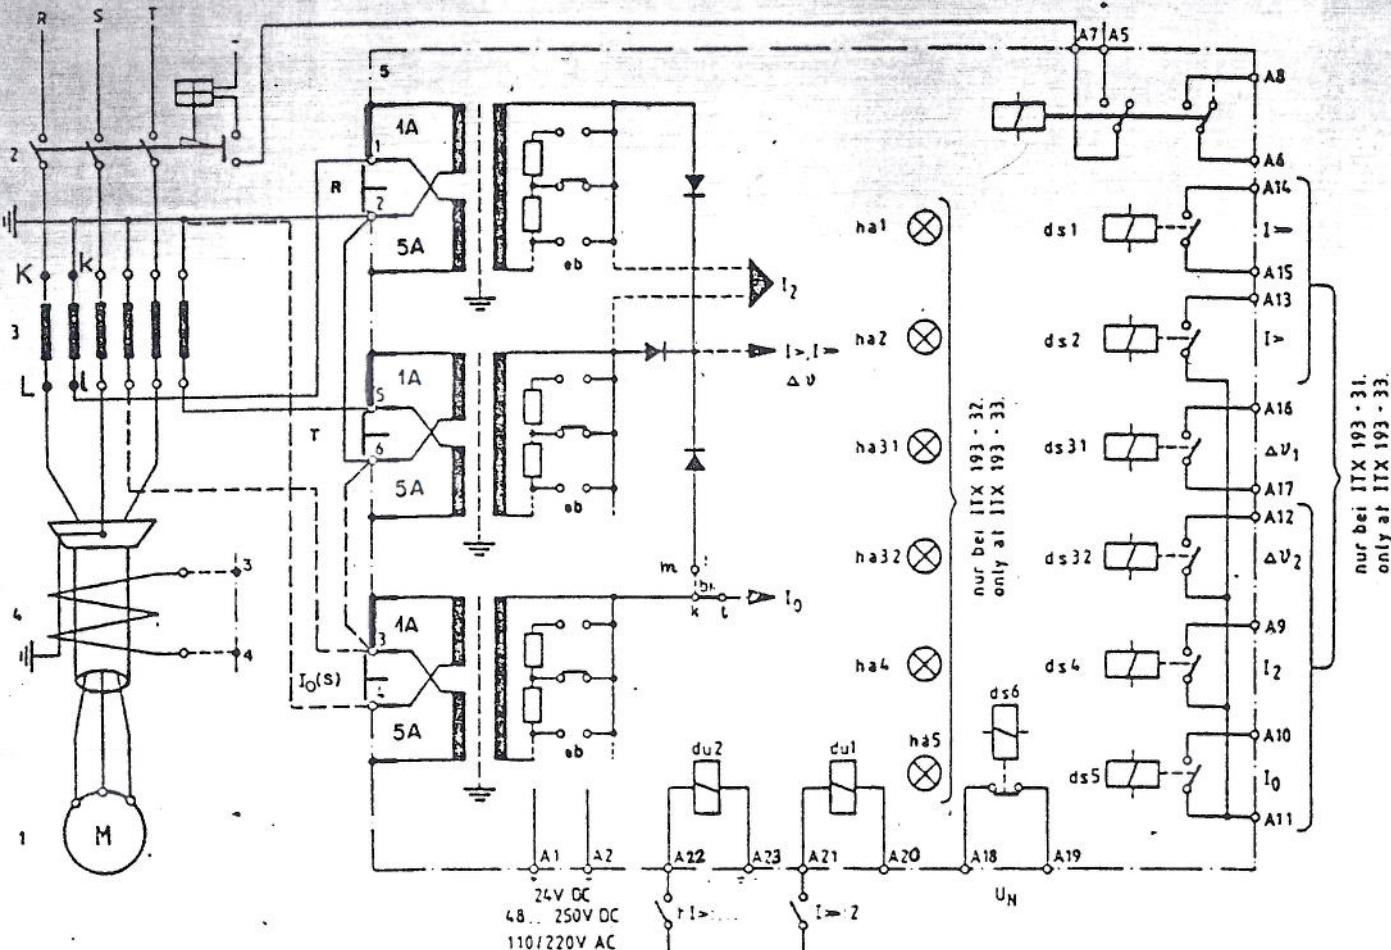

Figure 6: Connection diagram for motor protection relay type ITX 193
- Examples of connection diagrams Figures 6 to 8
- a) With two phase c.t's (R,T) - full lines and a separated cable c.t (item 4) connected to relay input of S(terminals 3 and 4)
1....5 like figure 6 Connection diagram for motor protection relay type ITX 193